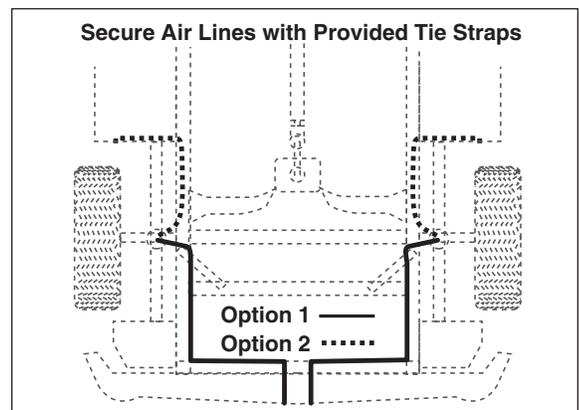

Figure 10
The wheel well flanges; The license plate recess in bumper; Under the gas cap access door; Through license plate (Figure 10).
5. Keep at least 6" of clearance between the air line and heat sources, such as the exhaust pipes, muffler, or catalytic converter. Avoid sharp bends and edges. Leave at least 2" of slack when securing the air lines to allow for any movement that might pull on the air line (Figure 10).